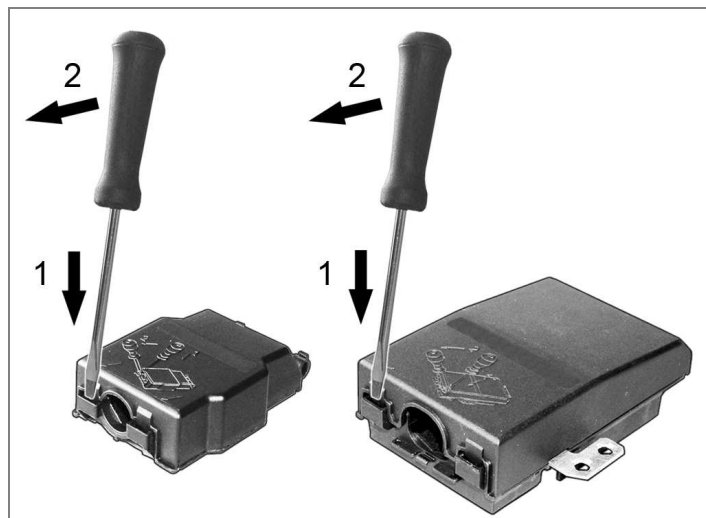

Figure 35
- With a screw driver, release the connection box cover to get access to the connection terminals (Figure 35).